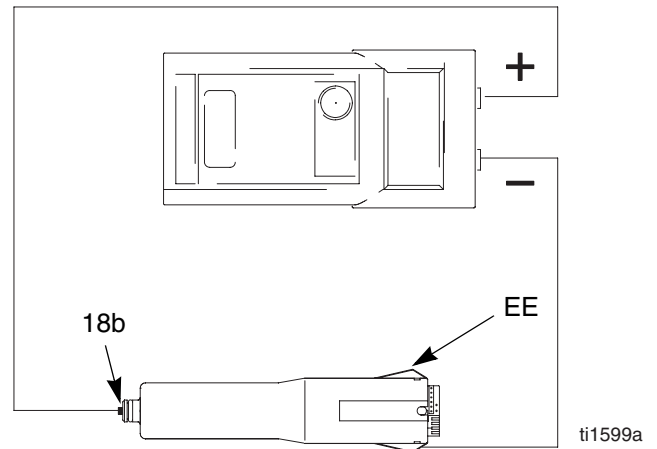

Fig. 18. Test Power Supply Resistance
2. Remove the power supply (18), page 46.
3. Remove the turbine alternator (19) from the power supply, page 47.
4. Measure resistance from the power supply's ground strips (EE) to the spring (18b). See FIG. 18..